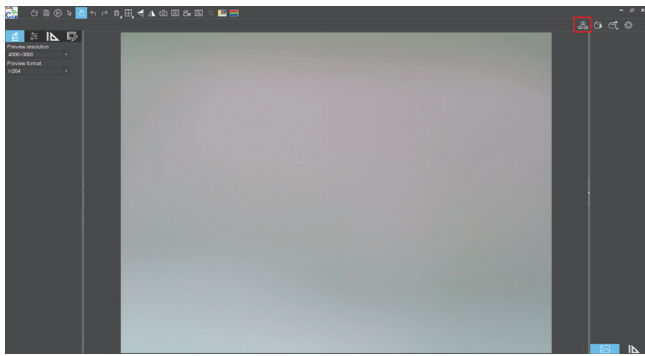
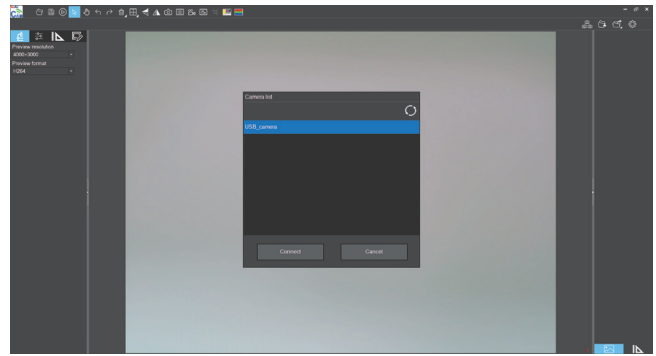

Figure 1
Figure 2
- (1) Connect a Windows PC or laptop that supports 5G WiFi IEEE802.11ac protocol to the same local area network as the camera.
- (2) Install and run the software KoPa Capture Pro on the Windows PC or laptop.
- (3) When there is only one network camera in the local area network, the software can automatically get the live image from the camera.
- (4) When there are multiple network cameras in the same local area network, click the icon " " in the upper right corner of KoPa Capture Pro (Figure 1), the list automatically shows all cameras in the current local area network (Figure 2), select a camera as needed, support switching midway at any time.